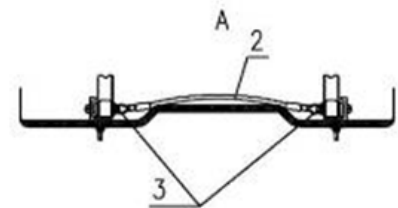

Fig. 25-00-1
B. Seat Uninstalling and Installing (Fig. 25-00-1)